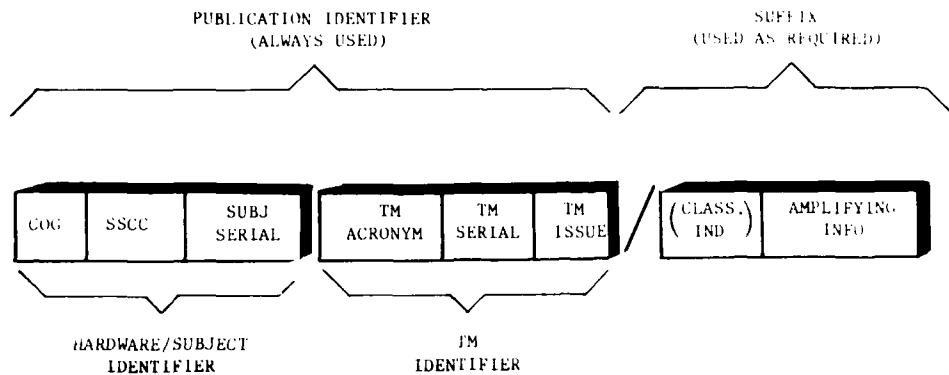

Figure 1-5. TMINS Composite
1.4.3 **TMINS ASSEMBLY.** The preceding paragraphs have described the components and individual coded groups that are included in the TMINS. Figure 1-5 illustrates the entire TMINS as an assemblage of all component parts.